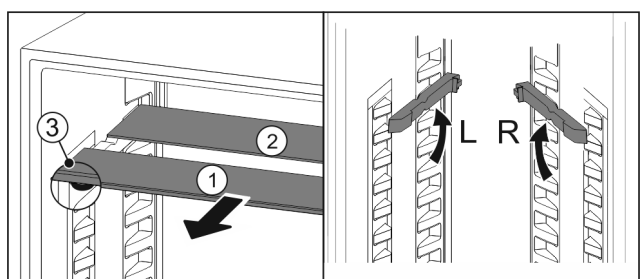

Fig. 90
- ▶ Pull the glass panels out *Fig. 90 (1)* from the front, one at a time.
- ▷ The glass panel *Fig. 90 (1)* and trim strip are at the front.
- ▷ The stops *Fig. 90 (3)* point down.